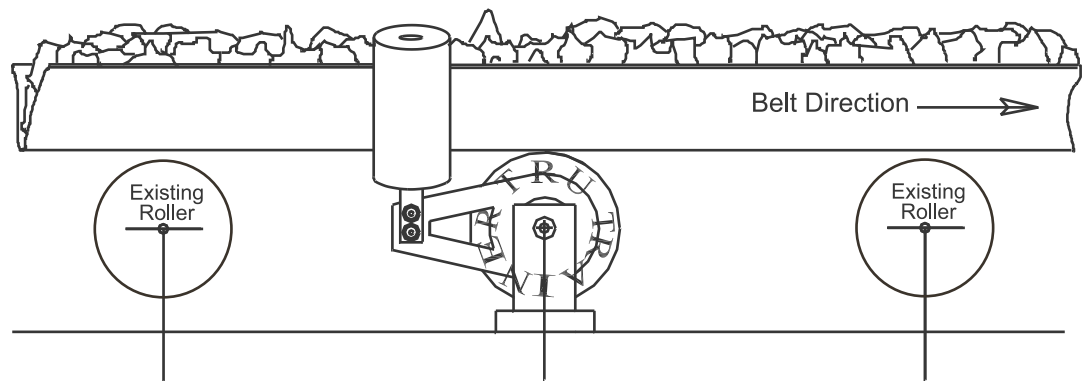

Fig. 10
6. Very important: Ensure the Tru-Trainer® Trough is installed in the correct direction. The wing rolls must touch the oncoming conveyor belt first. (See Fig. 10)